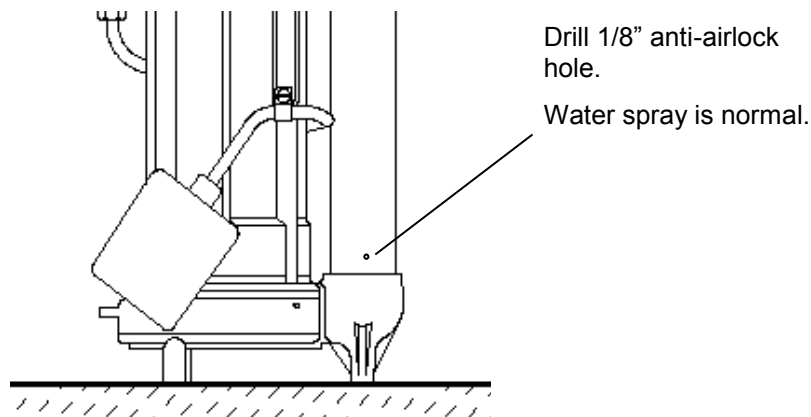

Fig. 1 – Anti-airlock hole position
7. If a check valve is used, **a 1/8" anti-airlock hole should be drilled in the discharge pipe just above the pump's discharge outlet to prevent pump "airlock" (see Fig. 1).**